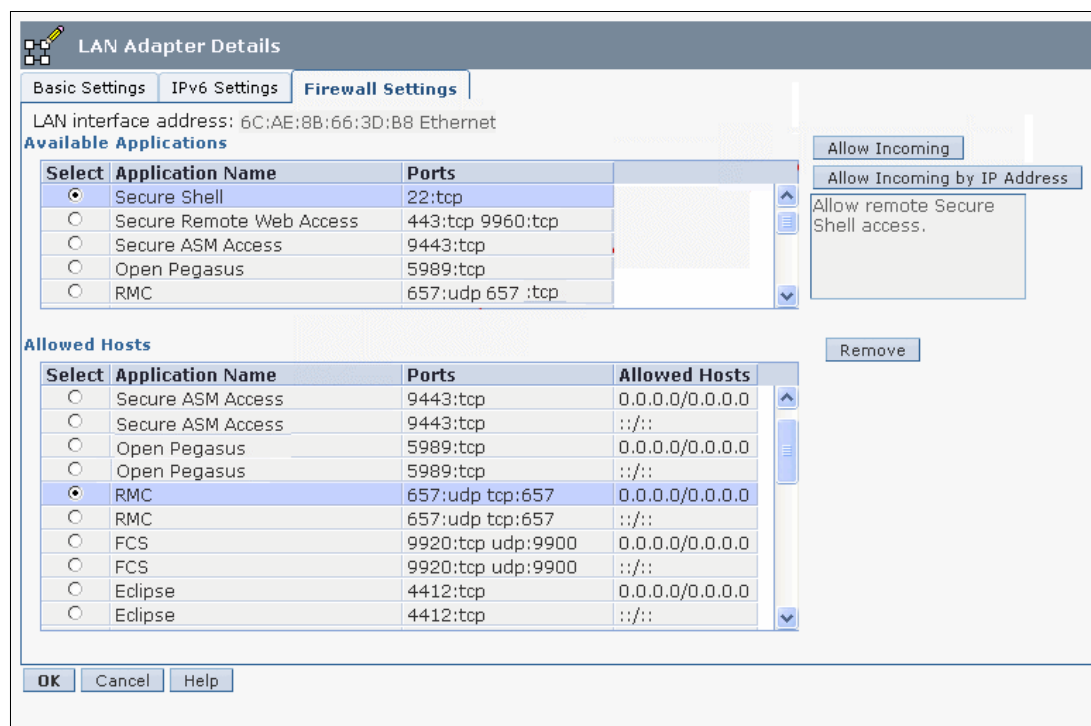

Figure 2-10 Customize Network Setting for LAN Adapters: RMC application
- Click the **Firewall Settings** tab (Figure 2-10), scroll to the Available Applications area to see whether RMC is already specified as available. The assumption for this example is that RMC is not yet available. Therefore, select **RMC** in the Allowed Hosts pane and click **Allow Incoming**. This action moves RMC into the Available Applications pane.